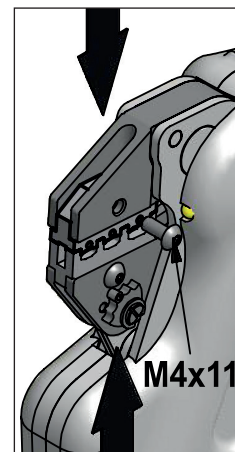

Figure 6
3. Press the Start button on the crimping tool briefly to close it so the upper part of the die set can be tightened with the M4x11 screw (figure 6).